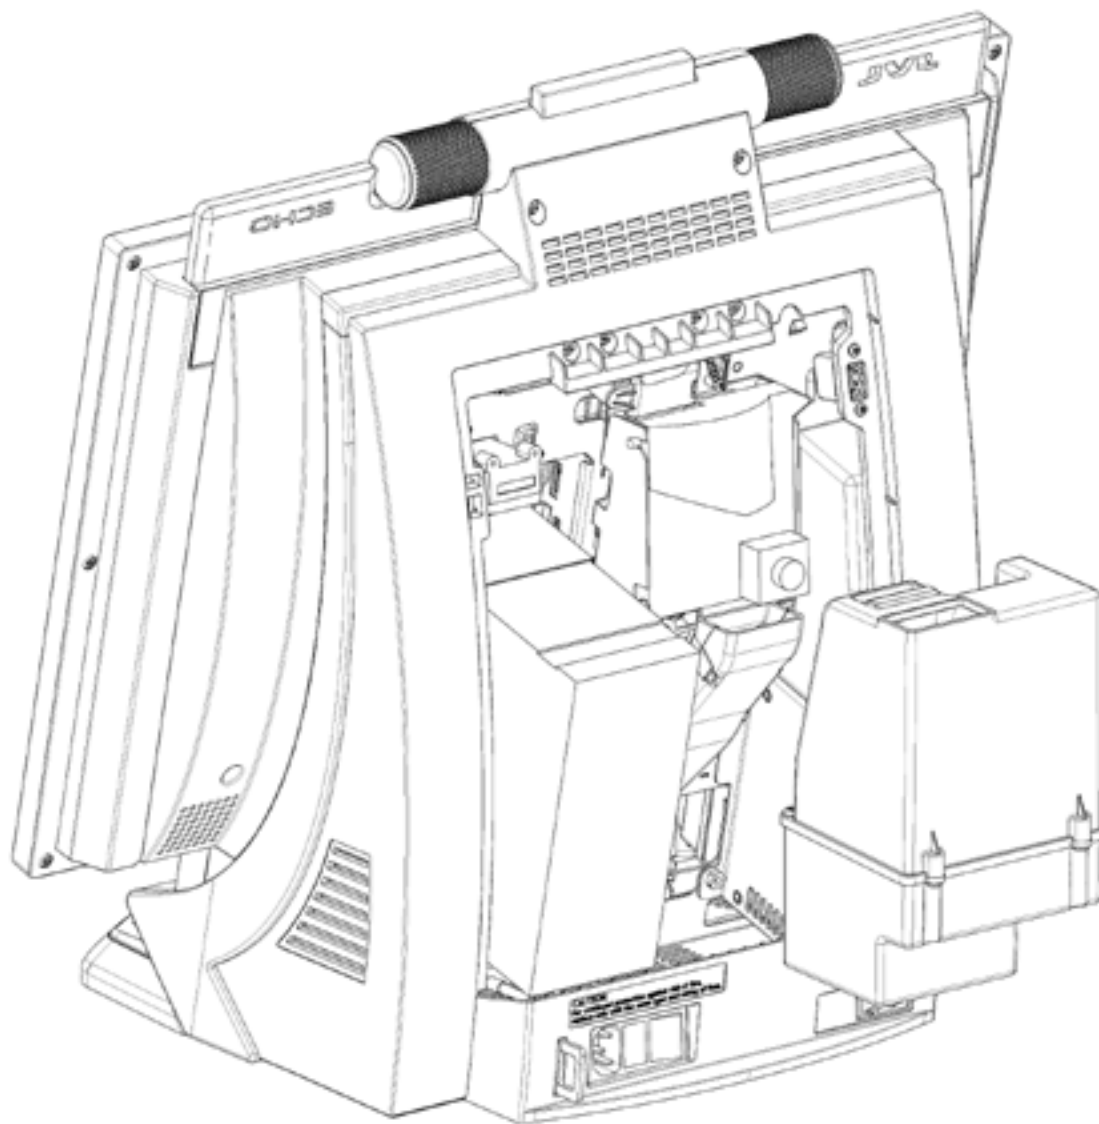

Fig. 2
3. Remove the freely installed Cashbox by lifting upwards, then pulling it towards you (see Fig. 2 on page 27 for details).